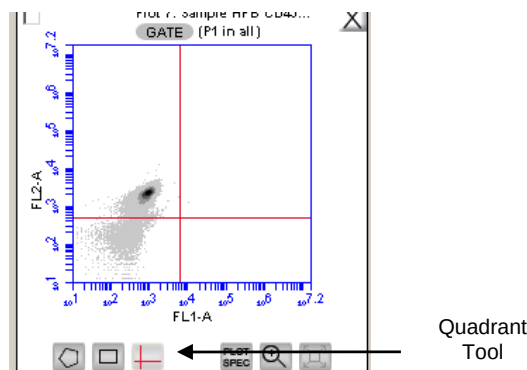

Figure 3-22 Selection and placement of Quadrant Marker
- For each 2D fluorescence plot, choose the Quadrant Tool and click inside the plot to set the quadrant position (Figure 3-22).